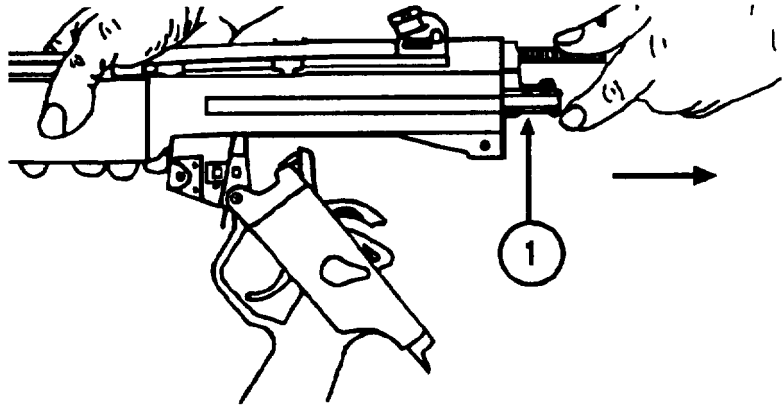

Figure 1-9. Removing The Bolt Carrier Assembly
d. Rotate pistol grip and trigger mechanism assembly downward away from receiver and slide the bolt carrier assembly (1), Figure 1-9, out of the back of the receiver.
- e. Slide the bolt carrier assembly (1), Figure 1-9, back into the receiver.